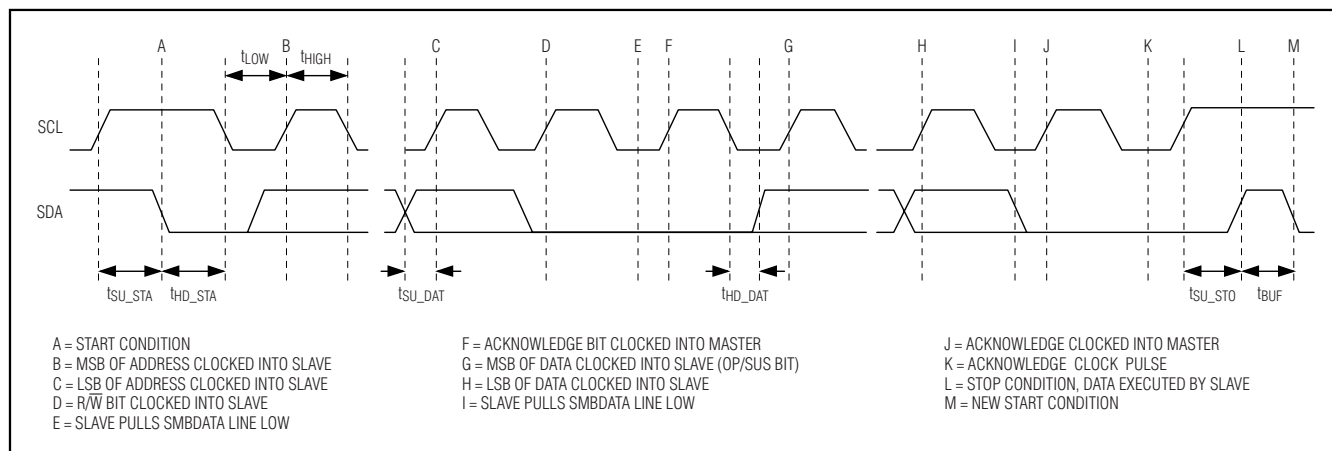

Figure 2. Definition of Timing for I²C Bus
used. Figure 2 shows a timing diagram for the I²C protocol. The MAX8647 is a slave-only device, relying upon a master to generate a clock signal. The master (typically a microprocessor) initiates data transfer on the bus and generates SCL to permit data transfer. A master device communicates with the MAX8647 by transmitting the proper 8-bit address (0x9A) followed by the 8-bit control byte. Each 8-bit control byte consists of a 3-bit command code and 5 bits of data (Table 1). Each transmit sequence is framed by a START (A) condition and a STOP (L) condition (Figure 2). Each word transmitted over the bus is 8 bits long and is always followed by an ACKNOWLEDGE CLOCK PULSE (K). The power-on default settings for D4 to D0 are all 0, which indicates that all LED_ are off.